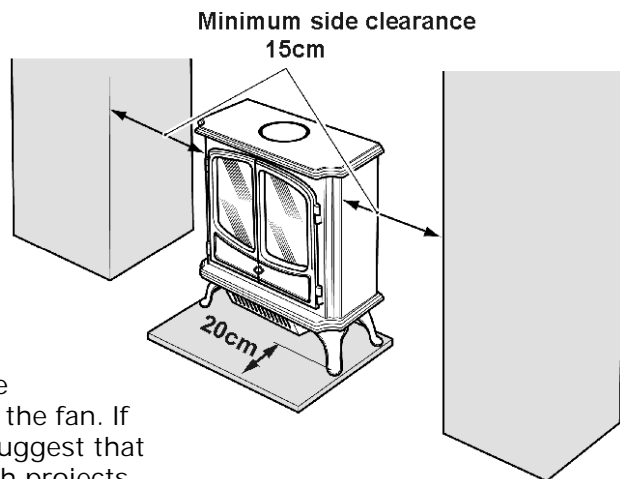

Figure 1
- ▶ If you are placing it in an alcove, make sure that the side clearances are at least as shown in figure 1.
- ▶ Although your stove complies with all the safety standards some types of floor coverings (e.g. vinyl tiles, synthetic deep pile carpets) may be affected by the hot air from the fan. If this could apply to your floor covering, we suggest that you place the stove on a shallow plinth which projects approximately 20cm forward of the front feet (See figure 1).